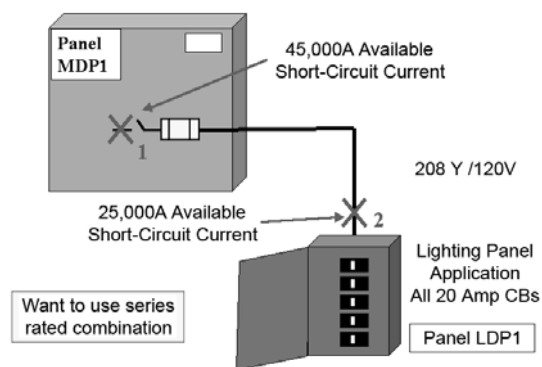

Figure 9
See Figure 9. The 208Y/120V, 200A, lighting panel LDP1 has 25,000A available short-circuit current. The distribution panel MDP1 has 45,000A available. The lighting panel has all single pole, 20A circuit breakers. The typical standard 20A lighting panel circuit breaker has a 10,000A interrupting rating, which is insufficient for the 25,000A available. The options are (1) to use a higher interrupting rated circuit breaker for the lighting panel, which may cost more and require more space or (2) to use a series rated combination. The series rated combination option can be investigated by looking at the fuse/circuit breaker tables by panelboard manufacturer that follow at the end of this section.